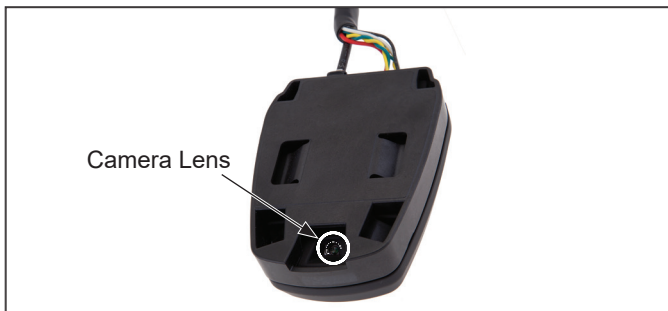

Figure K2 – Component: Camera
2. A Bendix™ AutoVue® FLC-20™ Camera is a visible-light spectrum camera mounted near the top and center of the windshield of the vehicle. See Figure K2.